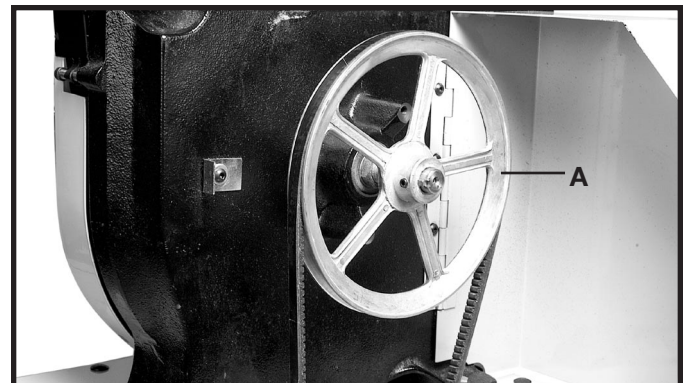

Fig. 25
1. Place the belt over the saw pulley (A) Fig. 25.